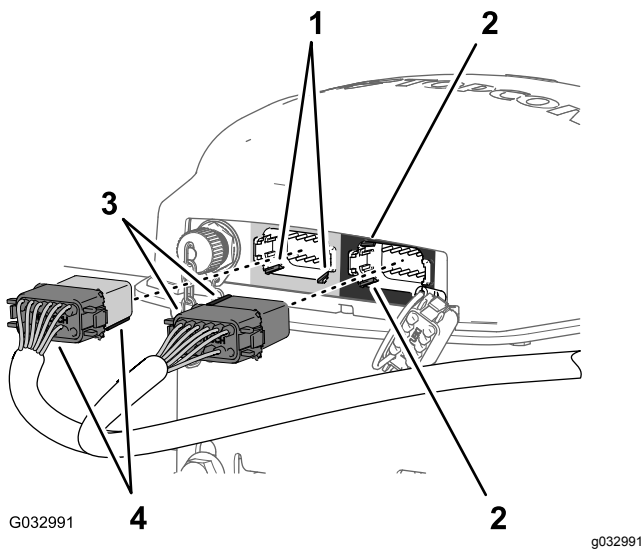

Figure 167
- Align the 2 keys at the long face of the gray and black 12-socket connector of the data harness with the 2 key slots in the bottom, horizontal wall of the left (gray) 12-pin connector of the navigation receiver (Figure 167).
4. Connect the gray and black 12-socket connector of the data harness into the left (gray) 12-pin connector of the navigation receiver until the connector locks snap together securely (Figure 167).
5. Align the 2 keys at the short side of the black 12-socket connector of the data harness with the 2 key slots in the left, vertical wall of the right (black) 12-pin connector of the navigation receiver (Figure 167).
6. Connect the black only 12-socket connector of the data harness into the left (black) 12-pin connector of the navigation receiver until the connector locks snap together securely (Figure 167).